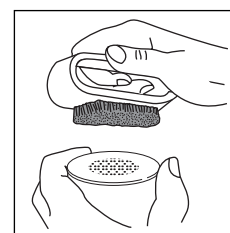

fig. 31
- Rinse all components and clean the metal filter thoroughly in hot water using a brush (fig. 31). Check (inspecting against the light) that the holes in the metal filter are not blocked. If neces-